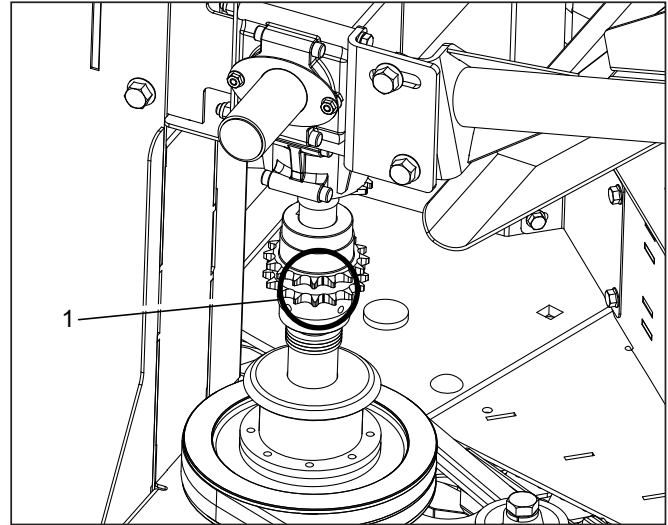

Figure 39
When replacing the belts or for any other reasons, it may be necessary to remove the chain from the couplers (item 1 figure 39) located underneath the gear boxes. To easily re-synchronize the conveyor chains, mark with a line the alignment of the coupler teeth (item 1 figure 39)
NOTE: The synchronisation is satisfactory when the conveyor chain links are interleaved (figure 38) and the coupler teeth are well aligned (figure 39).